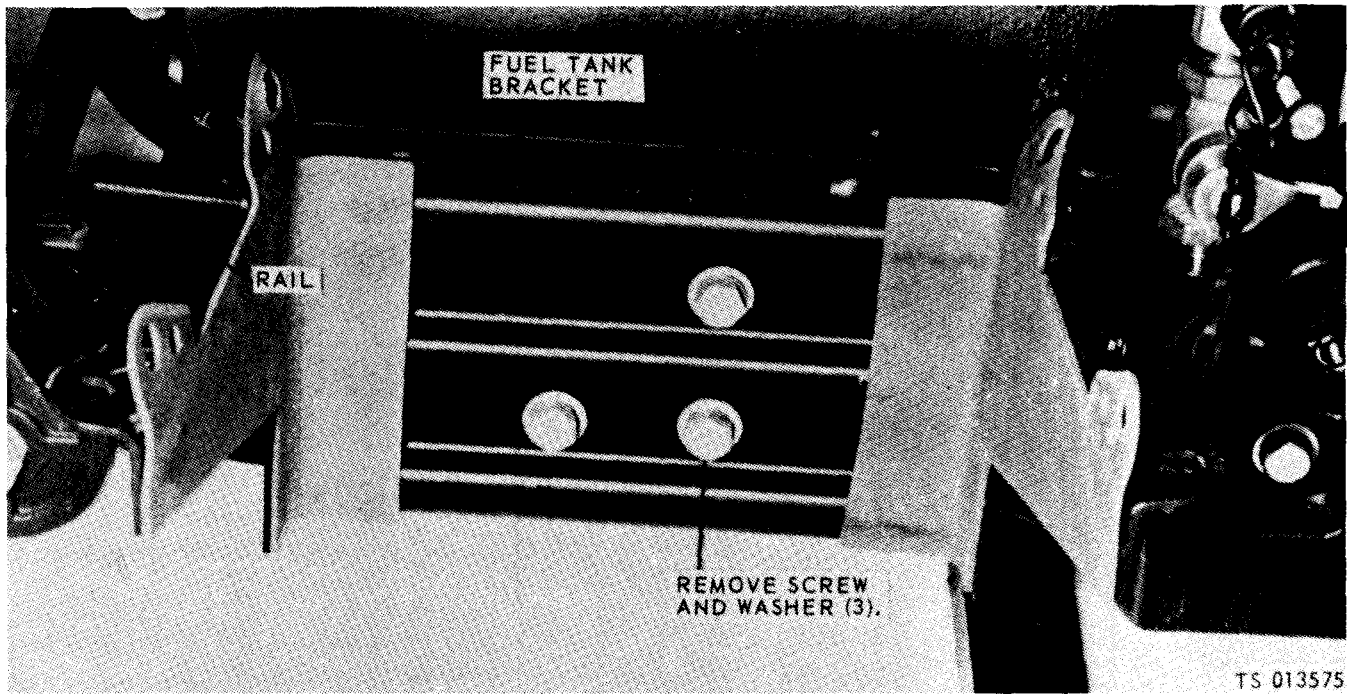

Figure 4-13. Fuel tank bracket, removal and installation (stainless steel tank).
(3) Refer to figure 4-13 and remove the bracket.
(3) Make a particularly close inspection of the welds that secure the hangar brackets to the sides of the tanks.
(4) Inspect the fuel tank bracket for cracks and distortion.
(6) If the steel fuel tank is defective, replace with nylon fuel tank (NSN 2910-00-401-4264).
c. *Installation.* Refer to figure 4-13 and install the fuel tank bracket.